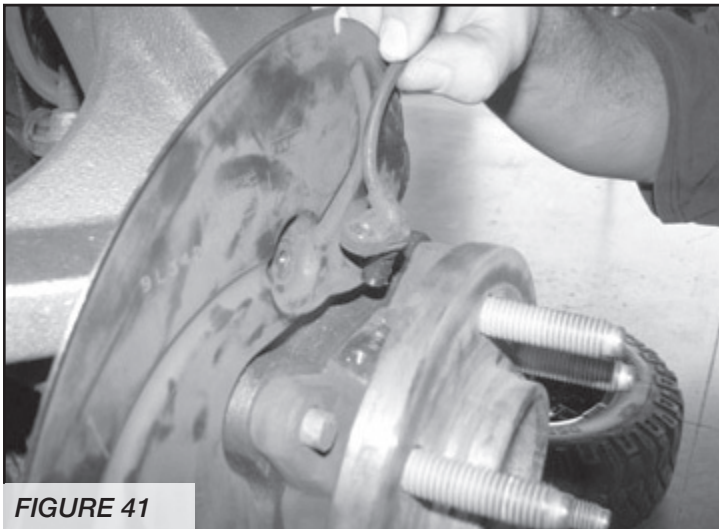

FIGURE 41
42. Install the wheel speed sensor. Make sure the end of the sensor is clean. **SEE FIGURE 41**